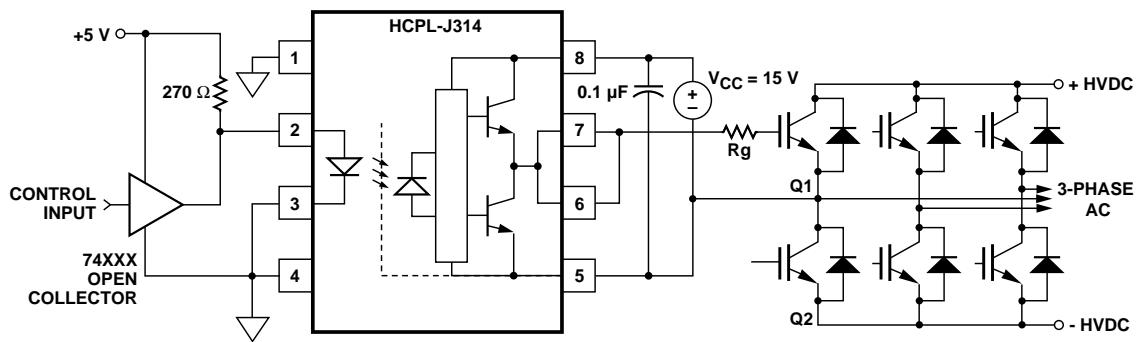
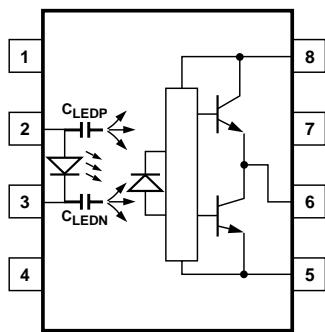
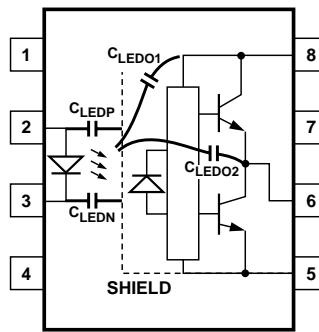

Figure 19. Recommended LED Drive and Application Circuit for HCPL-J314.
Figure 21. Optocoupler Input to Output Capacitance Model for Unshielded Optocouplers.
Figure 22. Optocoupler Input to Output Capacitance Model for Shielded Optocouplers.
the HCPL-J314 on a small PC board directly above the IGBT) can eliminate the need for negative IGBT gate drive in many applications as shown in Figure 19. Care should be taken with such a PC board design to avoid routing the IGBT collector or emitter traces close to the HCPL-J314 input as this can result in unwanted coupling of
Step 1: Calculate R_g minimum from the I_{OL} peak specification. The IGBT and R_g in Figure 19 can be analyzed as a simple RC circuit with a voltage supplied by the HCPL-J314.
where $K_{ICC} \cdot Qg \cdot f$ is the increase in I_{CC} due to switching and K_{ICC} is a constant of 0.001 mA/(nC*kHz). For the circuit in Figure 19 with I_F (worst case) = 10 mA, R_g = 32 Ω, Max Duty Cycle = 80%, Q_g = 100 nC, f = 20 kHz and T_{AMAX} = 85°C:
Without a detector shield, the dominant cause of optocoupler CMR failure is capacitive coupling from the input side of the optocoupler, through the package, to the detector IC as shown in Figure 21. The HCPL-J314 improves CMR performance by using a detector IC with an optically transparent Faraday shield, which diverts the capacitively coupled current away from the sensitive IC circuitry. However, this shield does not eliminate the capacitive coupling between the LED and optocoupler pins 5-8 as shown in Figure 22. This capacitive coupling causes perturbations in the LED current during common mode transients and becomes the major source of CMR failures for a shielded optocoupler. The main design objective of a high CMR LED drive circuit becomes keeping the LED in the proper state (on or off) during common mode transients. For example, the recommended application circuit (Figure 19), can achieve 10 kV/μs CMR while minimizing component complexity.
+dV_{CM}/dt transient, since all the current flowing through CLED_N must be supplied by the LED, and it is not recommended for applications requiring ultra high CMR₁ performance. The alternative drive circuit which like the recommended application circuit (Figure 19), does achieve ultra high CMR performance by shunting the LED in the off state.